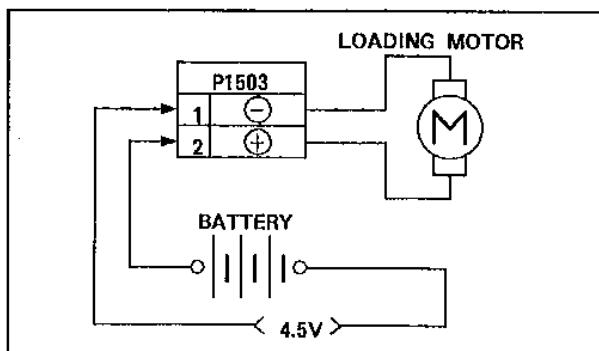

Fig.G1
2. Connect the battery (Manganese-Type (AA)(R6) 3pcs./+4.5V) to P1503 as shown in Fig.G1.